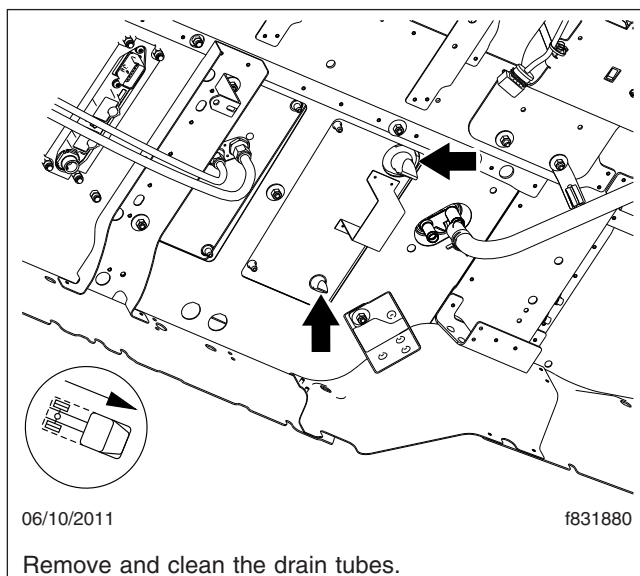

Fig. 10, Drain Tube Inspection
2. Remove the drain tube(s) from the bottom of the unit. See Fig. 10.